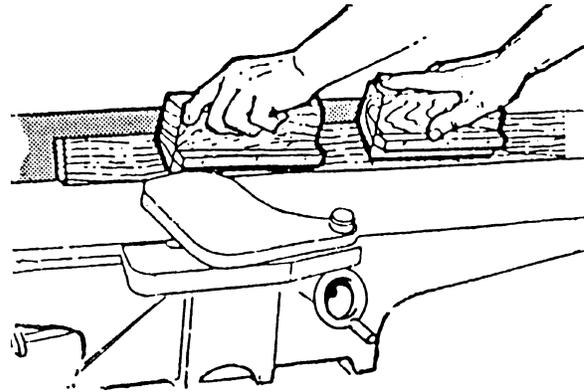

Figure 40
*For wood less than 3 inches wide (76.2mm)* – use beveled push blocks and apply pressure toward the fence. Keep fingers near top of push block (Figure 40).